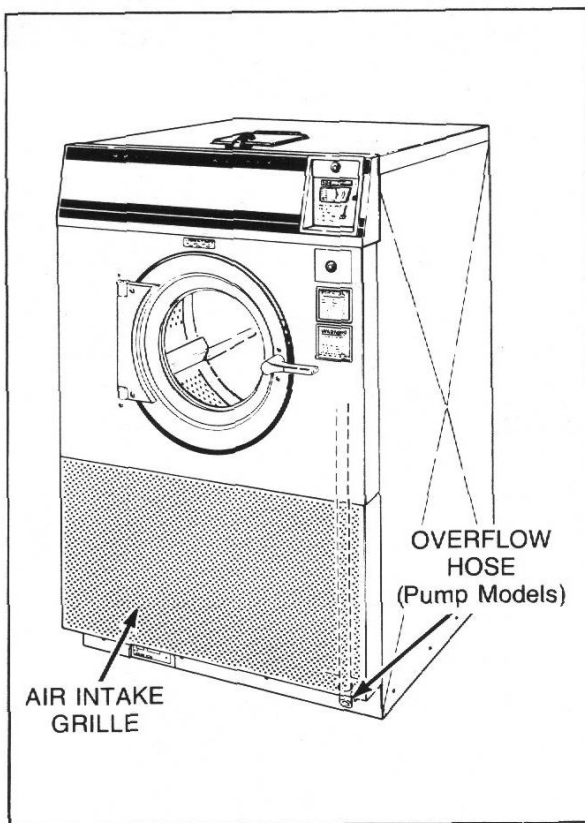

Figure 4
**6. AIR INTAKE GRILLE (Refer to Figure 4)**
**NOTE:** Pump Models — When grille is reinstalled, end of overflow hose must protrude through hole in bottom of grille, Figure 4.